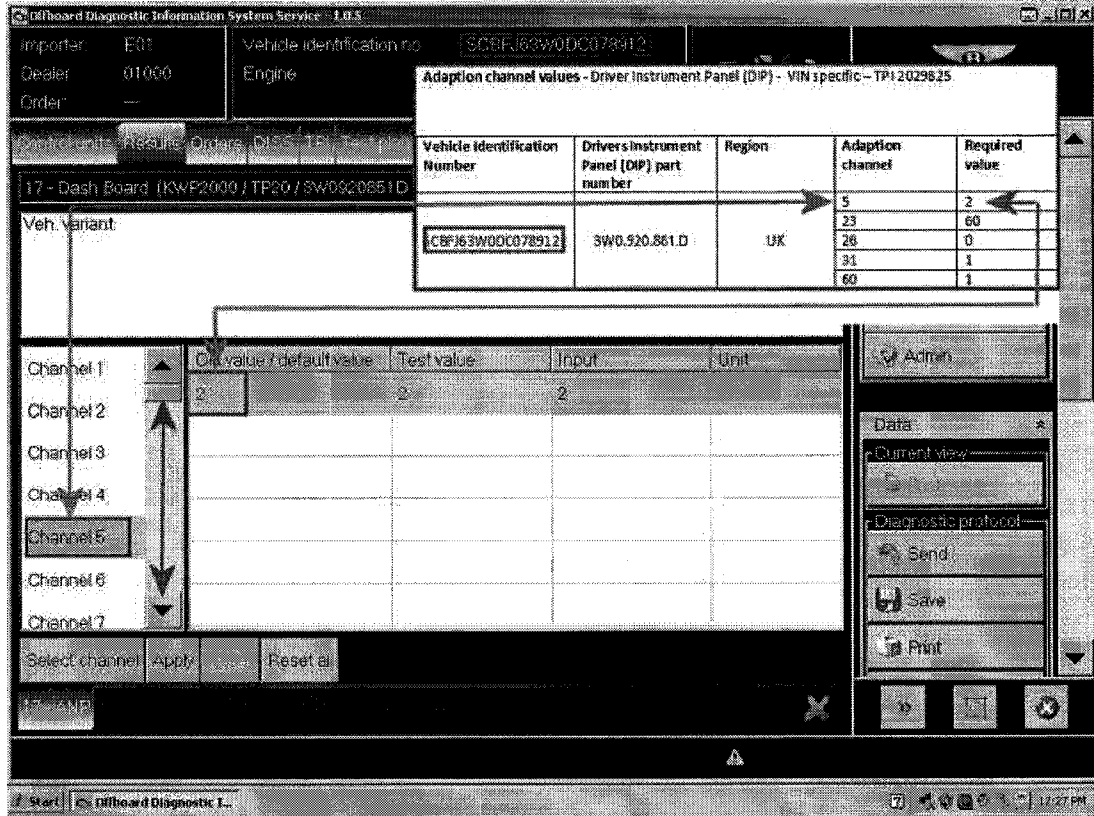

Figure 5
12. Scroll down and check each channel detailed in the attachment (Adaption channel values) for your specific VIN. To view each specific channel adaption value double touch the Channel number on the left of the screen. The example in Figure 5 indicates Channel 5 is showing the correct value for the specific VIN as referenced in the inset sample of the table **Adaption channel values**.